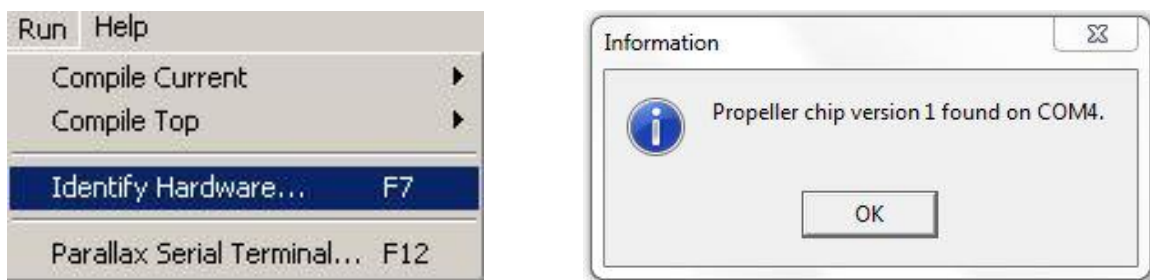

Fig. 6: Identifying Hardware (Propeller connected to COM4 in this tutorial)
7. Connect the Propeller to the computer via Mini-USB, and open Propeller Tool. In the Propeller Tool toolbar, select Run>Identify Hardware (or press F7) as seen in **Fig. 6** to identify which COM Port the Propeller is connected to.